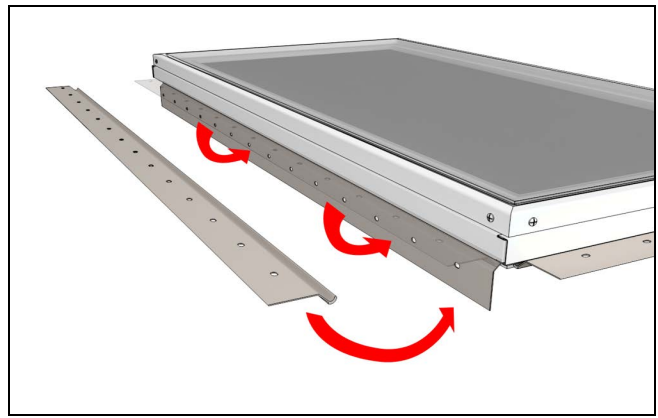

Figure 40
11. Install mounting flanges. Install on ground, may need to use force to insert in kerf. Corners of flange are sharp, use caution when installing. See Figure 40.